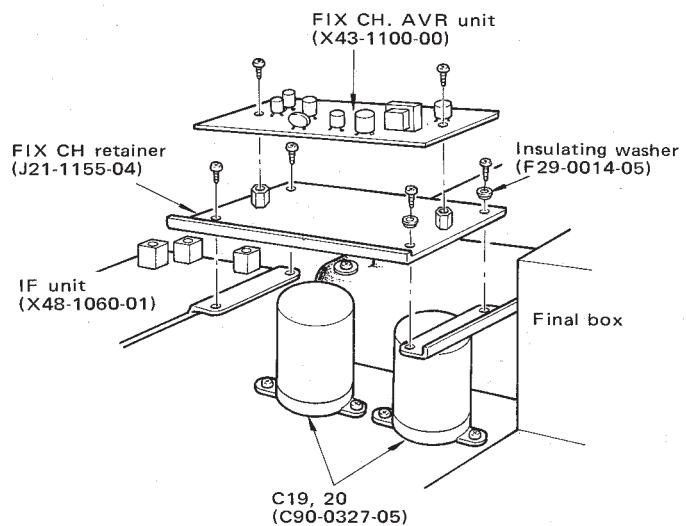

Fig. 11 Replacing C19, 20
(Figure 11) C19 and C20 are reached by removing the TS-520S top cover and then the FIXCH·AVR board.
2. Remove the FIXED CHANNEL · AVR board as shown in Figure 11.